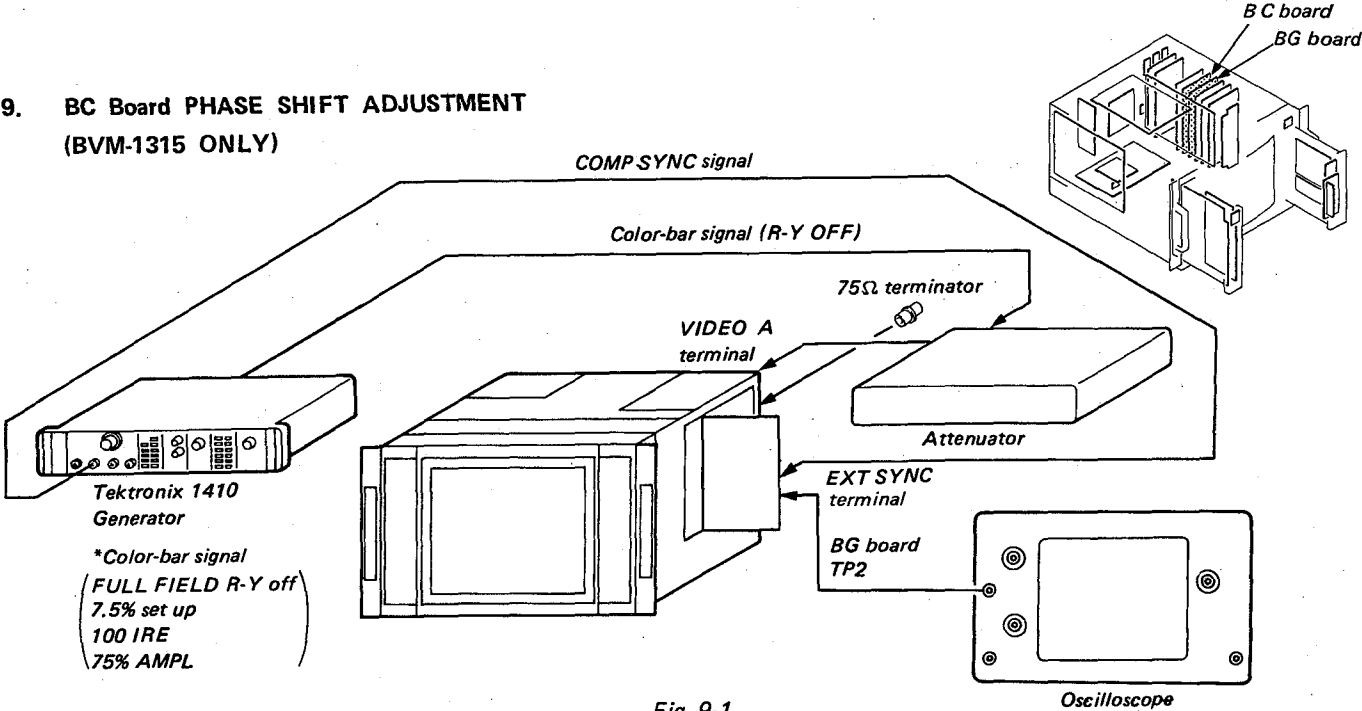

Fig. 9-1
- Complete the connection as shown in Fig. 9-1.
- INPUT selector (FRONT PANEL (R)) . . . . . A (A)
- SYNC selector (FRONT PANEL (R)) . . . . . EXT (EXT)